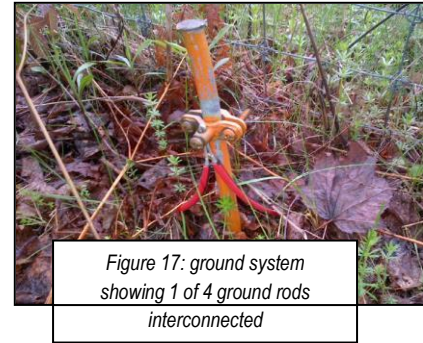

Figure 17: ground system showing 1 of 4 ground rods interconnected
- Wire splices: also known as crimp sleeves. Used on both woven wire and HTW. **Figure 17**